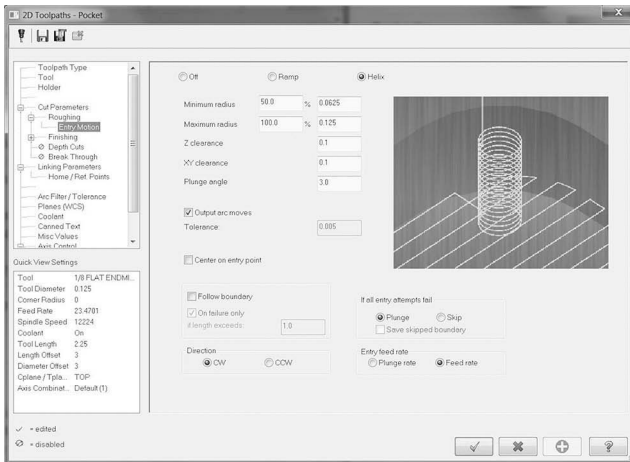

Figure 5-48 Pocket Roughing Entry Parameters
- Input the Pocket Roughing Entry Parameters as shown in Figure 5-48.